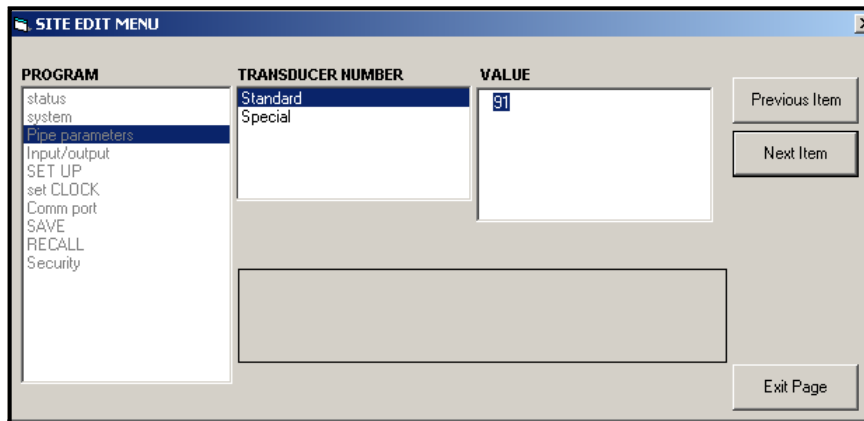

Figure 38: Pipe Parameters Option in Site Edit Menu
- a. Highlight and double-click on the desired option in the left pane. *Figure 38* below shows the first entry (Transducer Number) in the **Pipe parameters** option. The title above the center pane lists the current entry, while the center pane displays the available selections for that entry.